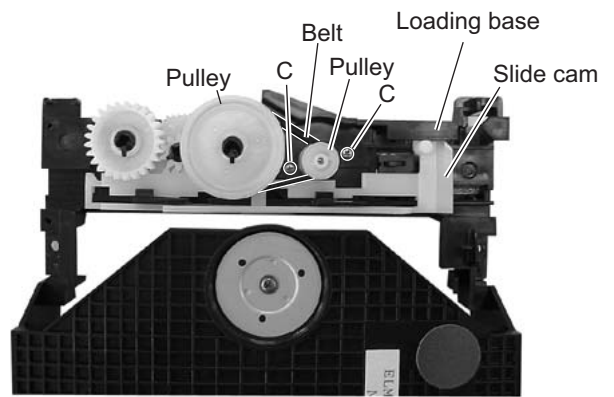
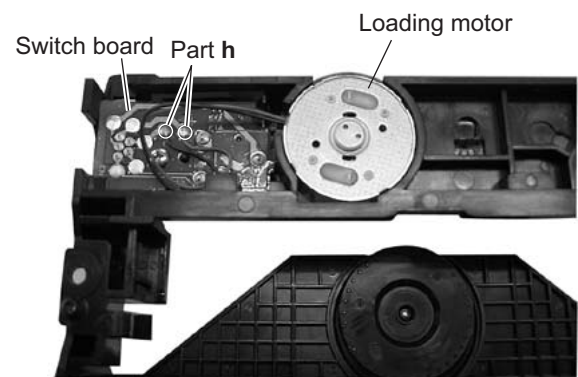

Fig.10
Fig.11
2.2.4 Removing the loading motor (See Figure 10 and Figure 11)